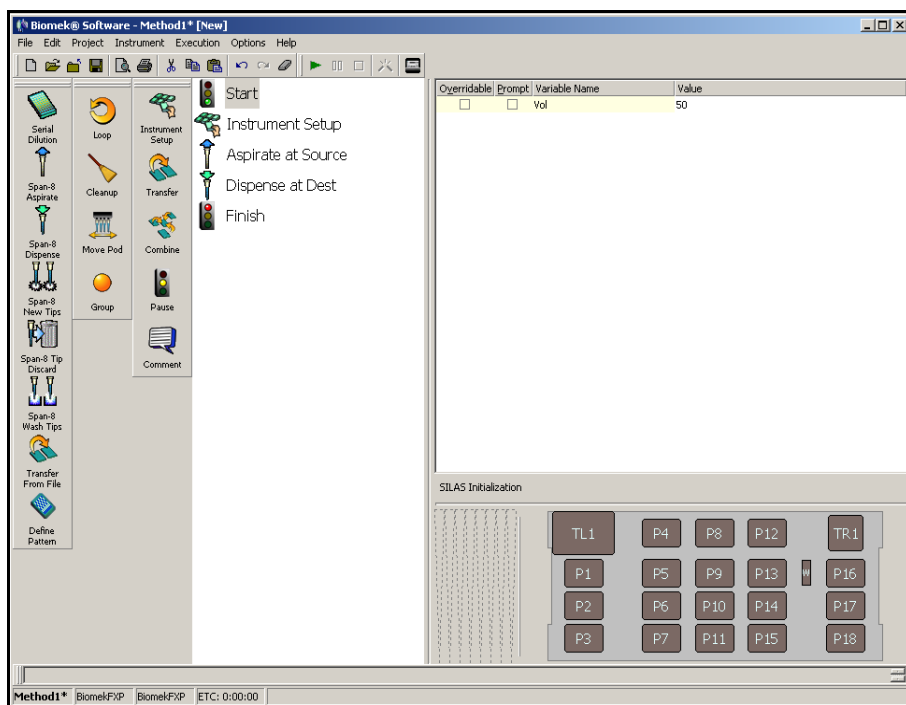

Figure 7-6. Vol variable created in the Start step
3. In **Value**, enter **50**. Your **Start** configuration should look like Figure 7-6. You have created a variable named *Vol* that has a value of 50.